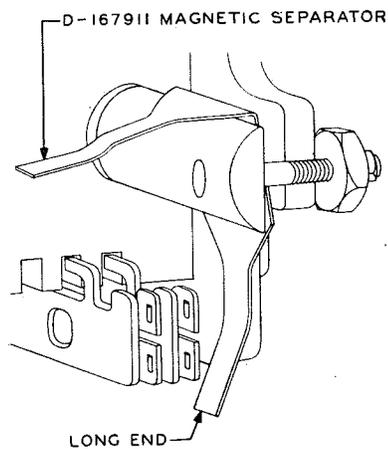
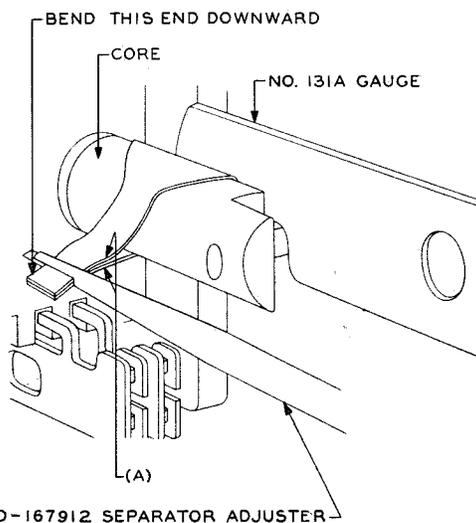

Fig. 4 - Method of Inserting D-167911 Magnetic Separator in Armature Gap
Fig. 5 - Method of Using D-167912 Separator Adjuster
(1) To remove the magnetic separator from the core, insert the 3-inch cabinet screwdriver between the convolutions of the separator and the core and pry the convolutions open. Remove the separator with the fingers.
(2) To place a magnetic separator on the core, insert the long end in the armature gap from the top and pass it down between the core and the armature until the bend of the separator rests approximately on the top edge of the core pole face as shown in Fig. 4. With the front edge of the separator close to the adjusting stud, insert the 0.020-inch blade of the No. 131A gauge into the armature gap as shown in Fig. 5, and electrically energize the relay. While holding the relay manually operated, disconnect the current from the relay, and with the gauge in place, pull the separator downward with the No. 485A pliers until the bend of the separator fits snugly against the upper edge of the core pole face. Hold the separator in this position and electrically energize the relay so that the gauge presses the
around the core with the orange stick and fingers so that the two narrow bands come nearly together at (A) Fig. 5. Place the flat surface of the long point of the D-167912 magnetic separator adjuster against the underside of the bottom band of the separator and press upward with the adjuster, at the same time pressing down on the upper band of the separator with a forefinger. When the two bands contact, push the adjuster forward so that the two bands slide into the slot. Move the adjuster to the left until the length of the separator extending to the left of the adjuster is only slightly greater than the width of the adjuster as shown in Fig. 5. Hold the adjuster so that both ends of the separator coincide and bend the tips of the separator which project through the adjuster downward with a finger or orange stick. Then, holding the adjuster horizontally in line with the core, move the handle of the adjuster slightly to the left so that the side of the tapered end of the adjuster nearest the core is parallel to it. Then twist the adjuster in a clockwise direction until the ends of the separator are